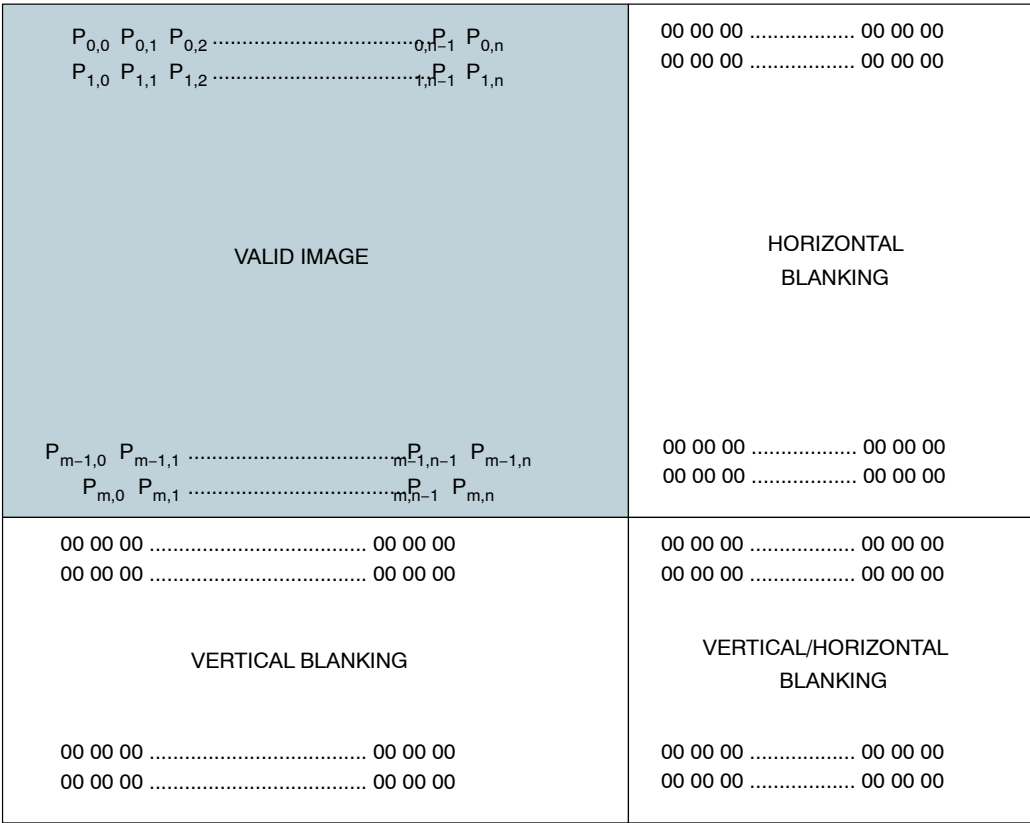

Figure 8. Spatial Illustration of Image Readout
The AR0130 image data is read out in a progressive scan. Valid image data is surrounded by horizontal and vertical blanking (see Figure 8). The amount of horizontal row time (in clocks) is programmable through R0x300C. The amount
of vertical frame time (in rows) is programmable through R0x300A. LINE\_VALID (LV) is HIGH during the shaded region of Figure 8. Optional Embedded Register setup information and Histogram statistic information are available in first 2 and last row of image data.
Sensor timing is shown in terms of pixel clock cycles (see Figure 8). The recommended pixel clock frequency is 74.25 MHz. The vertical blanking and the total frame time equations assume that the integration time (coarse integration time plus fine integration time) is less than the number of active lines plus the blanking lines: